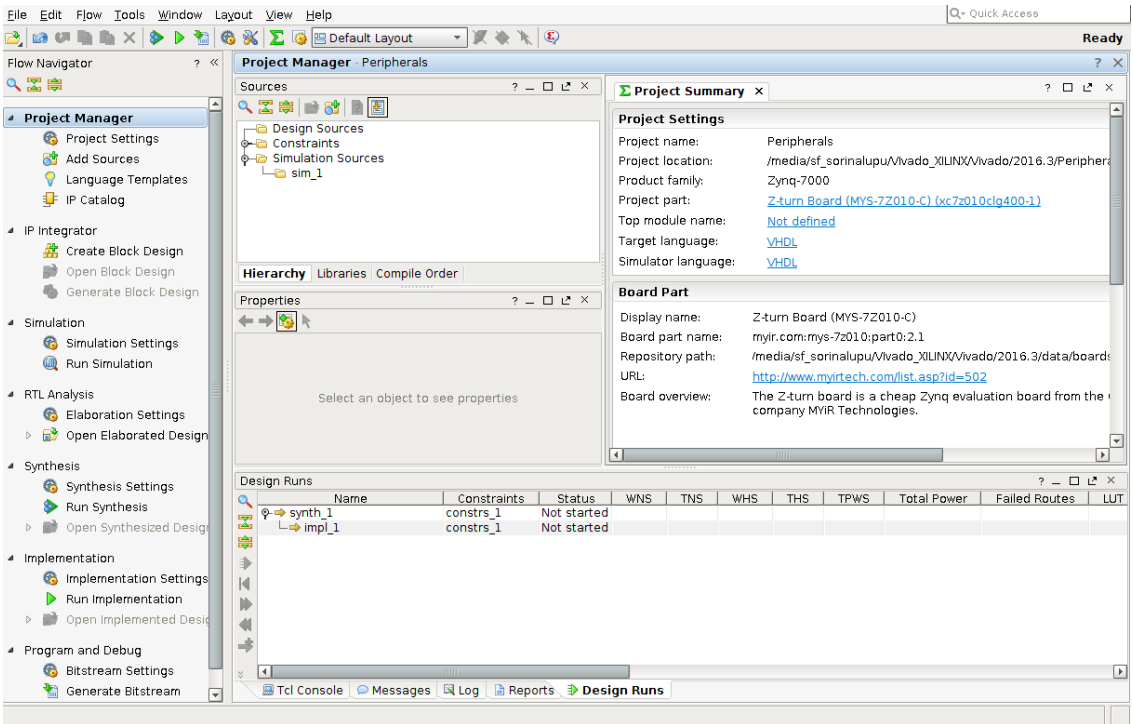

Figure 7: Project Structure
- 4. Create the Block Design. On the left, in the Flow Navigator window, choose **Create Block Design** and call it **Peripherals**. Press OK, and now the environment should look like in Figure 7. Vivado is based on an IP-centric design flow, in order to rapidly configure the AXI interconnect, AXI Masters and Slaves.